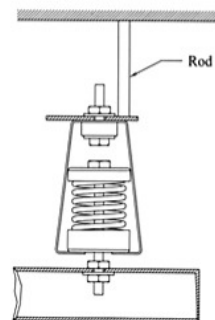

Fig.4
- 5、 Match M10\*150 bolt with vibration isolator bolt hole, then tighten M10 nut clockwise.(See Fig.4)